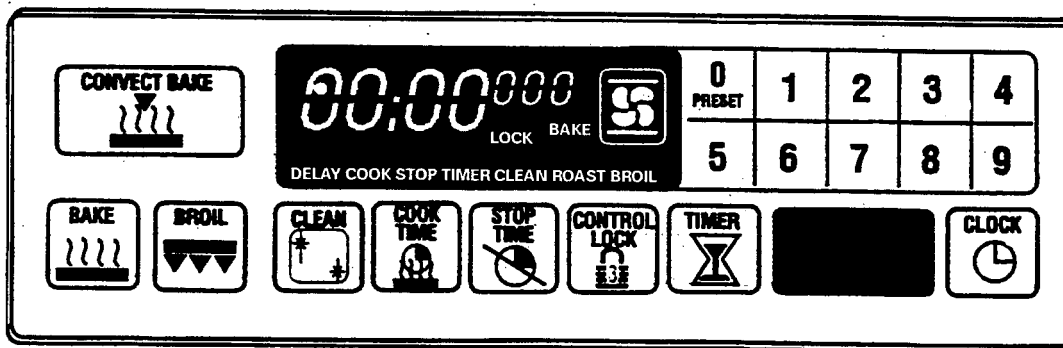

Figure 2-6
**T2 Clock** - The T2 Clock controls continually checks the control and/or oven failures and displays an "F" code and an auxiliary code which are saved in memory. Both the "F" code and the second code for the last fault occurrence may be displayed by pressing CANCEL within one second after power-up, or by powering up the control with the membrane switch disconnected, *see figure 2-6.*